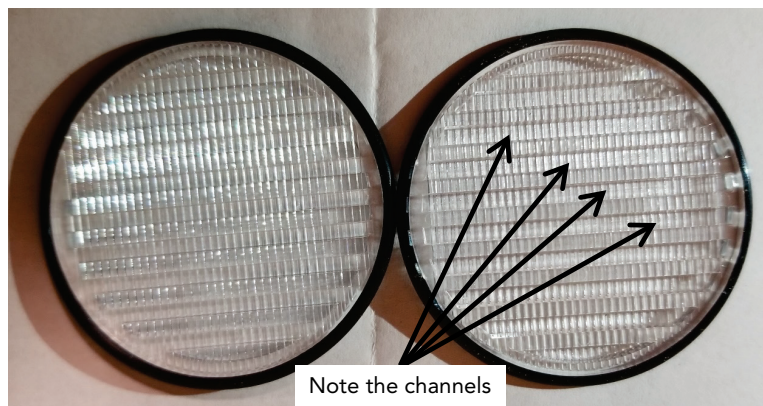

Figure 5. Filter Support Screen
- a. Ensure the filter support screen is properly oriented. The surface touching the filter/cassette should be reasonably smooth. The side of the support with deep channels should be oriented towards the quick-connect fitting. See Figure 5 for reference. Proper orientation is critical to ensure a uniform particulate deposition pattern on the filter, which is necessary for metals analysis by X-ray Fluorescence (XRF);